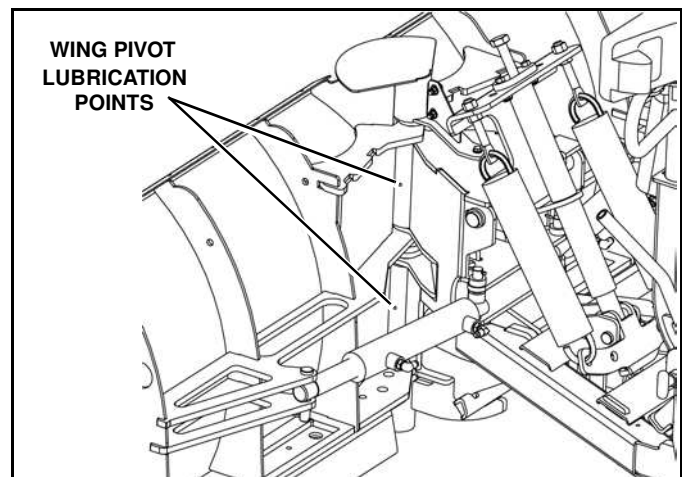

Figure 1-40
4. Apply oil or grease to the wing pivot pin through two lubrication holes provided in the pin housing. (See Figure 1-40).